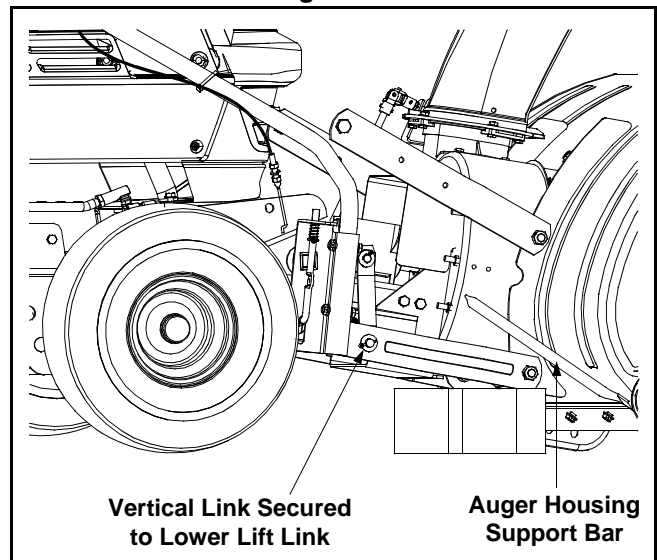

Figure 11
6. Secure the **vertical** lift links to the **lower** lift links by fastening with the flat washers and hairpin clips also removed in Step 4. See Figure 11.
8. Grasp the auger housing support bar, refer to Figure 11, on the left rear (have a second person grasp the support bar on the right rear) portion of the auger housing and lift upward until the holes found on the rear of the **lower** lift links are aligned with the holes found on both (left & right) sides of the support carriage.